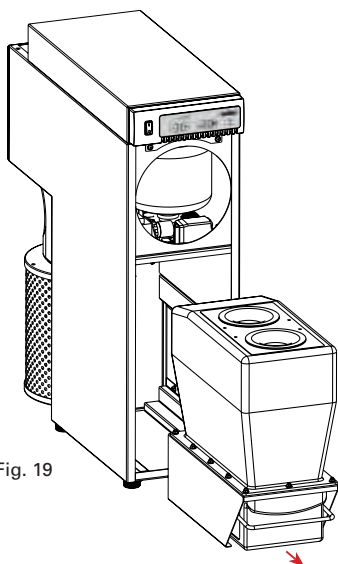

Fig. 19
- 4 the motor can then be pulled out to the rear (fig. 19).